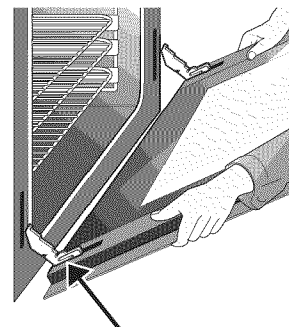

Figure 45: Holding door for removal
4. Keep pulling the bottom of the door toward you while rotating the top of the door toward the appliance to completely disengage the hinge levers (Figure 45).
1. Firmly grasp both sides of oven door along the door sides. Do not use the oven door handle (Figure 45).
2. Holding the oven door at the same angle as the removal position, seat the hook of the hinge arm over the roller pins located on each side of the oven door frame (Figure 45). The hook of the hinge arms must be fully seated onto the roller pins.